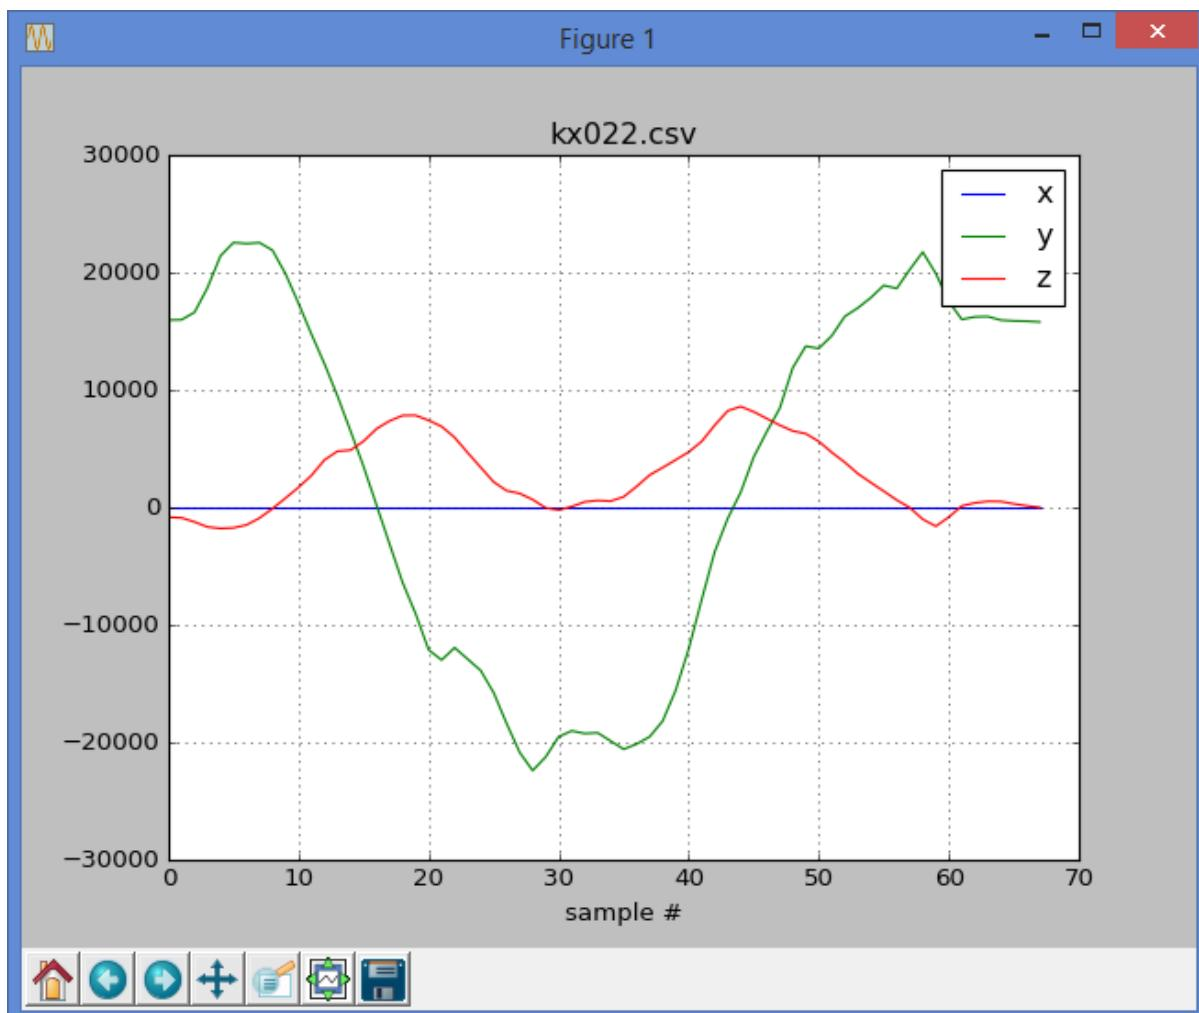

Figure 20: Recorded signals shown by the `plot.py` application.
- It is possible to view the recorded log with the `plot.py` application (Figure 20):